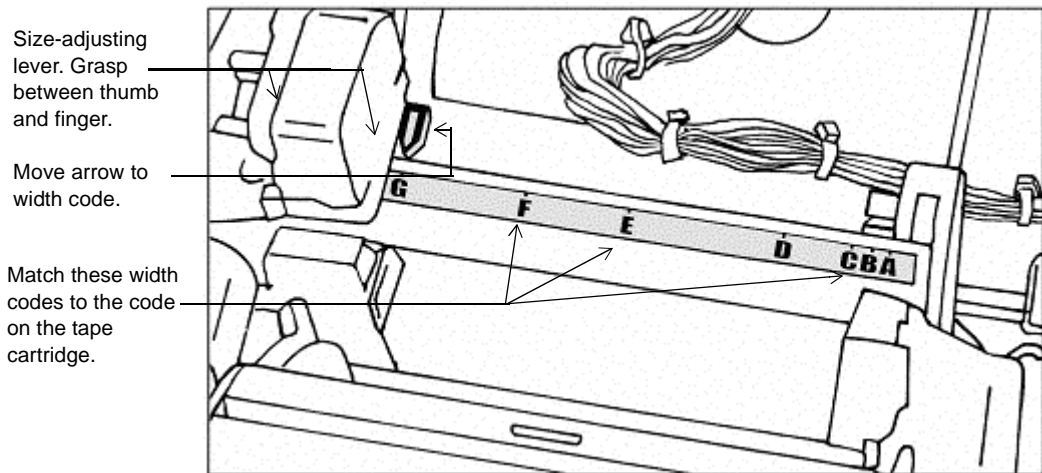
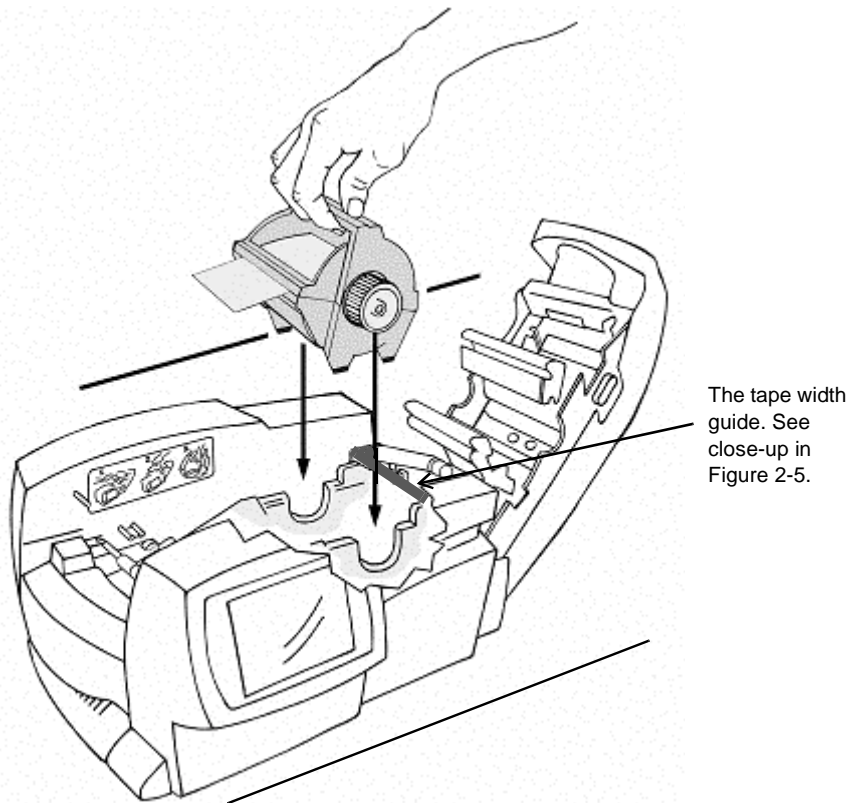

Figure 2-5. Tape width guide
Figure 2-6. Installing a tape cartridge
Figure 2-5 shows the tape width guide inside the printer, and Figure 2-6 shows you where that guide is located inside your printer.
- Step 3:** Hold the tape cartridge by the handle with the feet pointed downward and parallel with the surface the printer is sitting on, as shown in Figure 2-6. Make sure the tape extends through the slot in the cartridge.